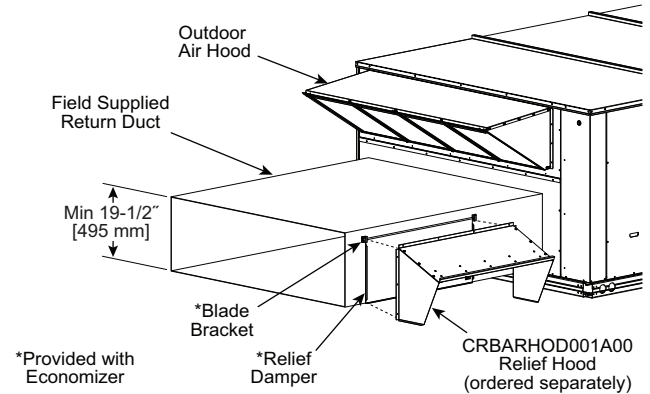

Fig. 29 — Installing CRBARHOD001A00 Over Relief Damper
4. Using the blade brackets, install the relief damper onto the side of the return duct (see Fig. 29). The two brackets and relief damper are provided with the economizer.
Caulk the backside of the mating flanges to ensure a watertight seal. Install the CRBARHOD001A00 over the relief damper and screw to the return duct, as illustrated in Fig. 29.